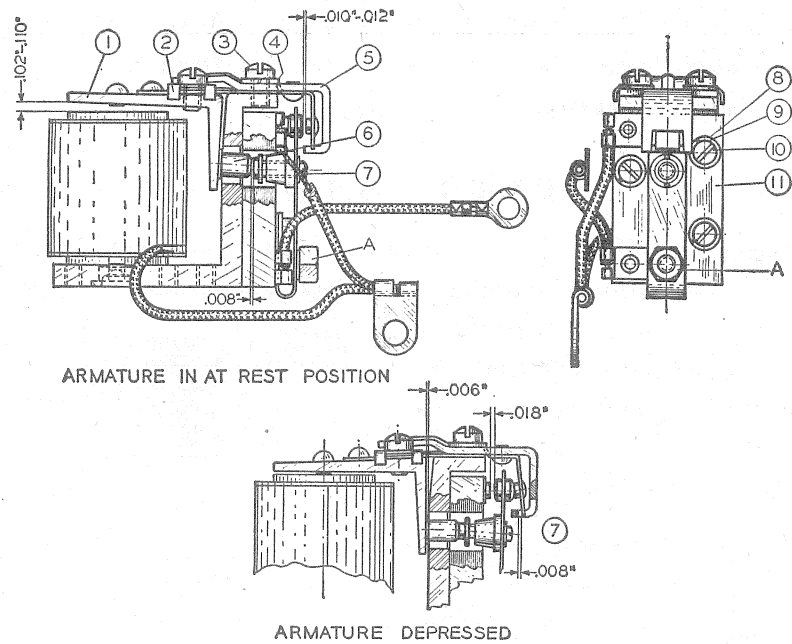
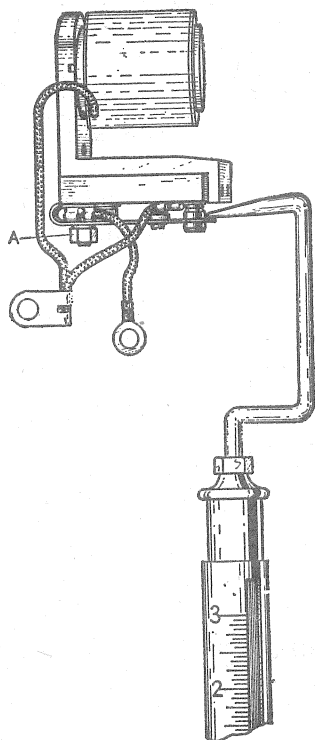
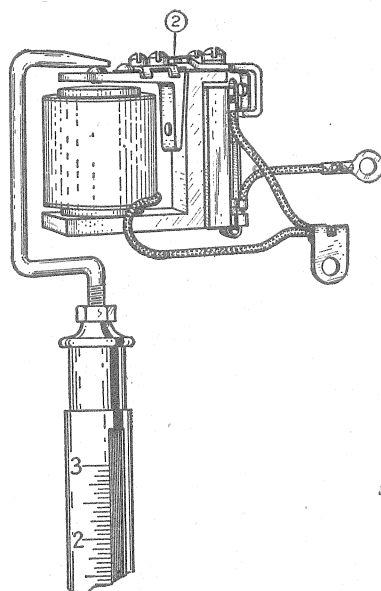

FIGURE 8
FIGURE 9
FIGURE 10
NOTE: The numbers given in the following paragraphs refer to Figure 8.
4. Adjust the tension of the terminal block movable contact springs—see Figure 9—this must be between 14 to 18 oz. Adjustment is made by tightening or loosening nut (A).
5. Loosely fasten the armature assembly (1) and hold-down bracket (5) to the regulator yoke using screw (3) and lock washer (4).
6. With the armature depressed, adjust the gap between the armature and yoke to .006"—see Figure 8—using a standard feeler gauge. Securely fasten the armature in place.
7. With the armature (1) in the "at rest" position, the gap between the front of the armature and core must be .102"-.110"; adjustment is made by bending the tongue end of the hold-down bracket (5) up or down as required.
8. Check the tension of the armature spring—see Figure 10—this must be between 23 oz.-32 oz. Adjustment is made by shifting the spring clamp (2).
10. With the armature (1) fully depressed, the opening between the lower regulating contacts must be at least .018". This is adjusted by means of the reverse current screw (7). In this position the spring with the upper regulating contact must be raised at least .008" from its "at rest" position.
11. With armature (1) in the "at rest" position, a gap of not less than .008" must exist between reverse current screw (7) and the glass bead (6).